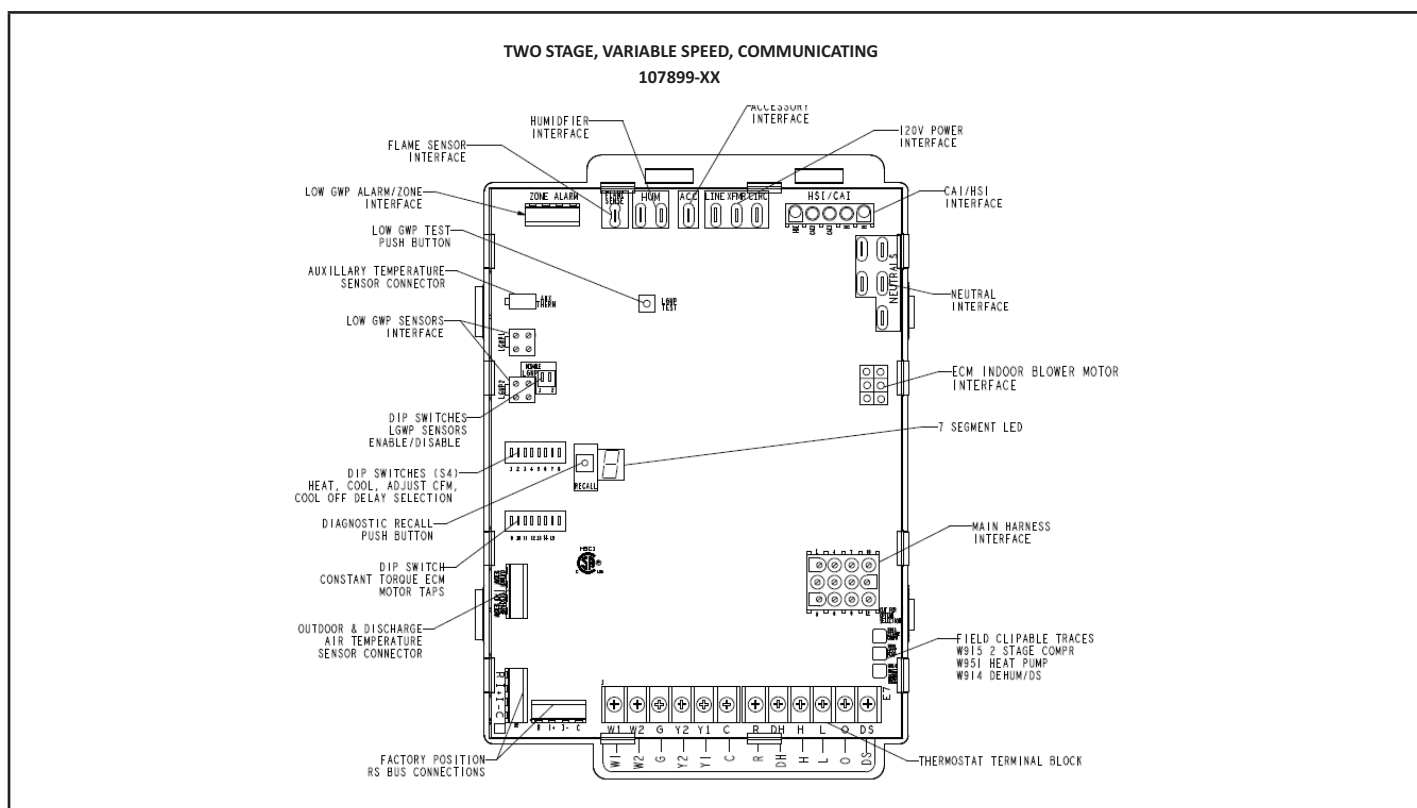

FIGURE 33
- 7 - One line voltage "ACC" 1/4" spade terminal is provided on the furnace integrated control. Any electronic air cleaner or other accessory rated up to one amp can be connected to this terminal with the neutral leg of the circuit being connected to the one of the provided neutral terminals. See FIGURE 33 for control configuration. This terminal is energized when the indoor blower is operating.